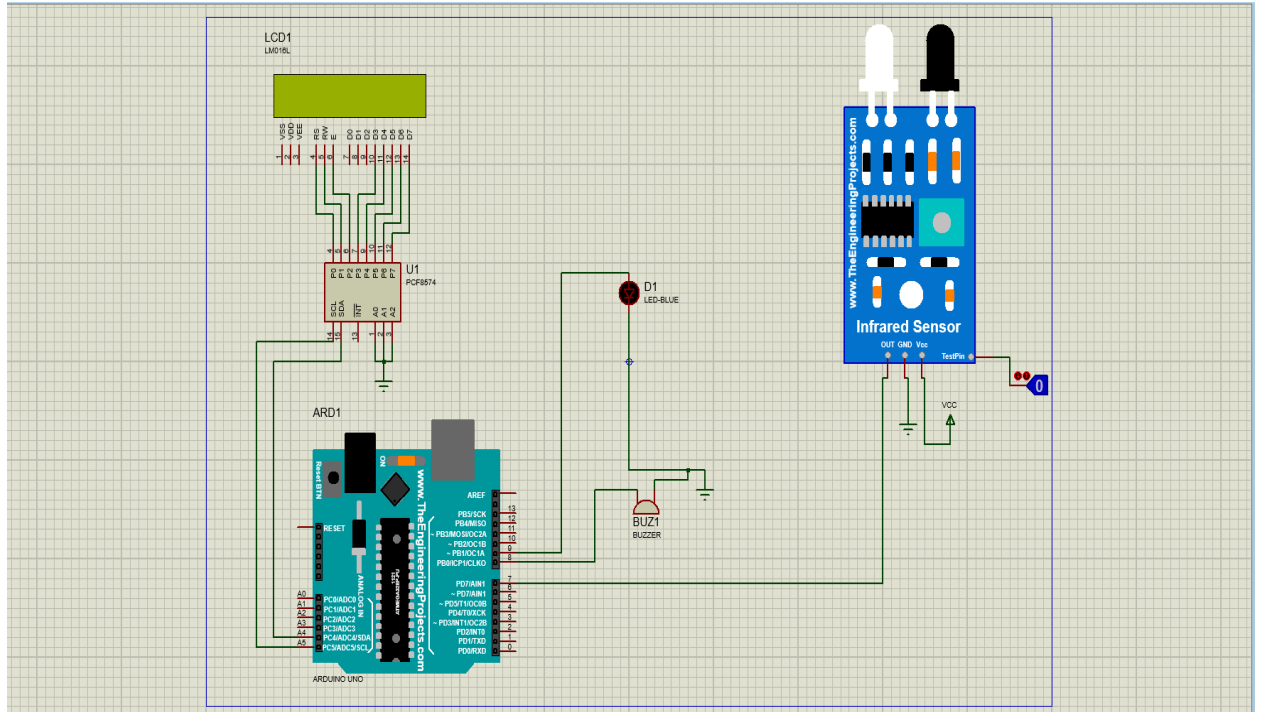

Figure 3: Prototype Using Proteus
1. **Connect Components:** Link the camera, buzzer, LEDs, and sensors to the Arduino board based on the circuit diagram (see *Figure 3: Prototype Using Proteus*). Each component plays a critical role in detection and response.